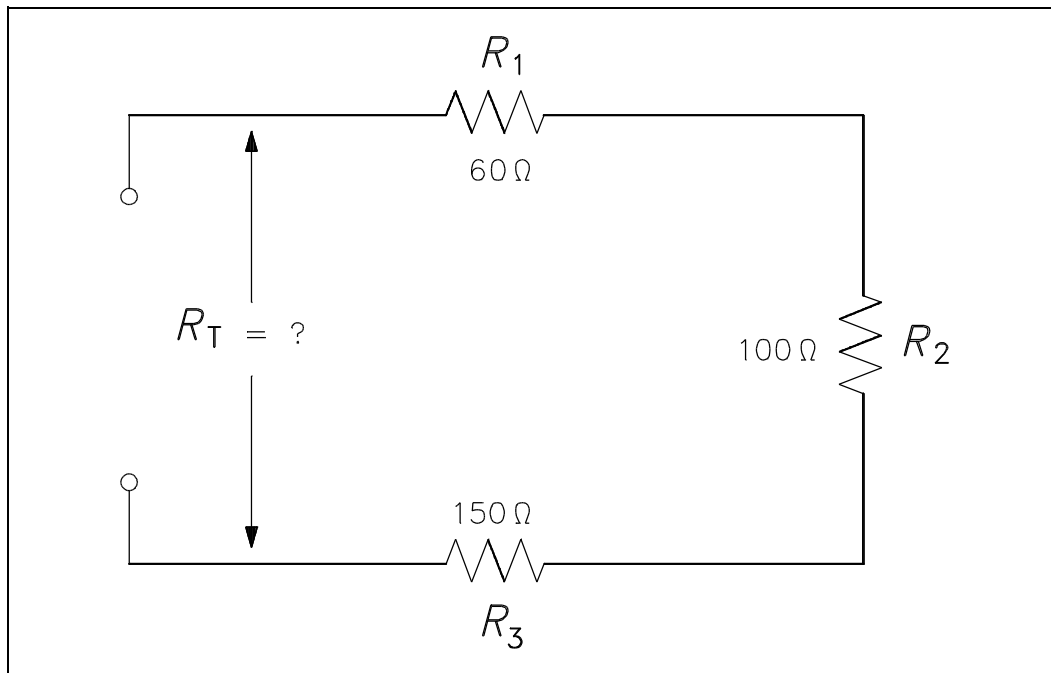

Figure 18 Resistance in a Series Circuit
**Example:**      A series circuit has a 60Ω, a 100Ω, and a 150Ω resistor in series (Figure 18). What is the total resistance of the circuit?